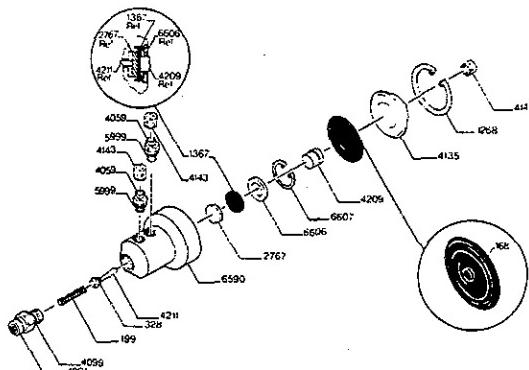

FIGURE 31
- Insert poppet and return spring into CARTRIDGE nose (see Fig. 31) and secure in place with mounting cap and $\frac{1}{2}$ " open end wrench.
- Reinstall internal components into CARTRIDGE (Fig. 31) per exploded view.